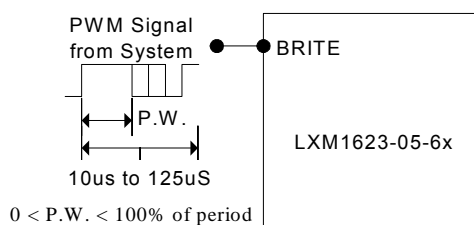

Figure 1A – PWM Brightness Control
- The brightness control may be a voltage output DAC or other voltage source, a digital pot or 20K manual pot. The inverter contains an internal 10K pull-up to 3V to bias the pot, add a 1.8K resistor to set the lower threshold voltage. A 3.3V Logic Level PWM signal from a micro-controller may also be used as shown in Figure 1A.